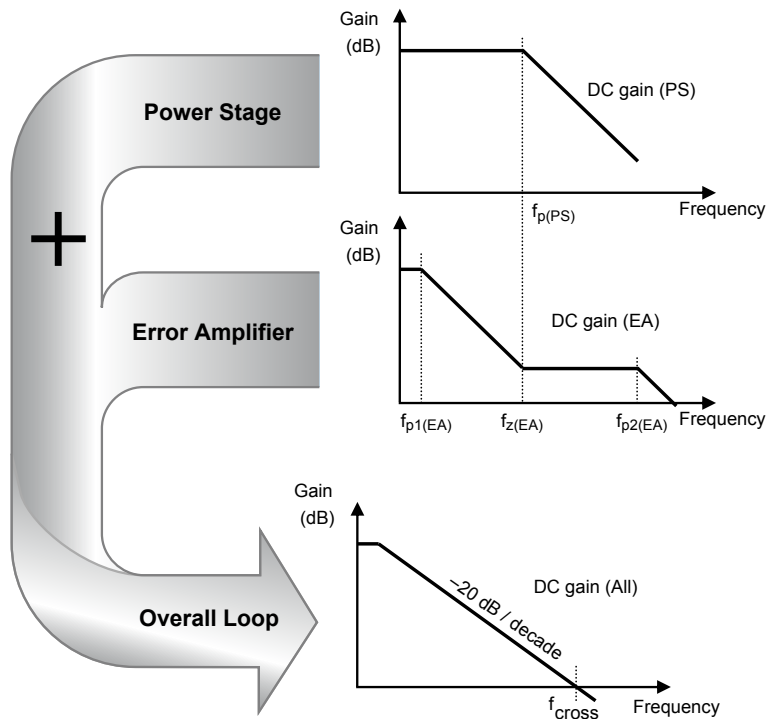

Figure 6: Power Stage, Error Amplifier, and Combined Overall Control Loop Response
Figure 6 illustrates the power stage gain, the error amplifier gain, and then the combined overall loop response (power stage and error amplifier).
2. Overall DC gain (refer to figure 6):